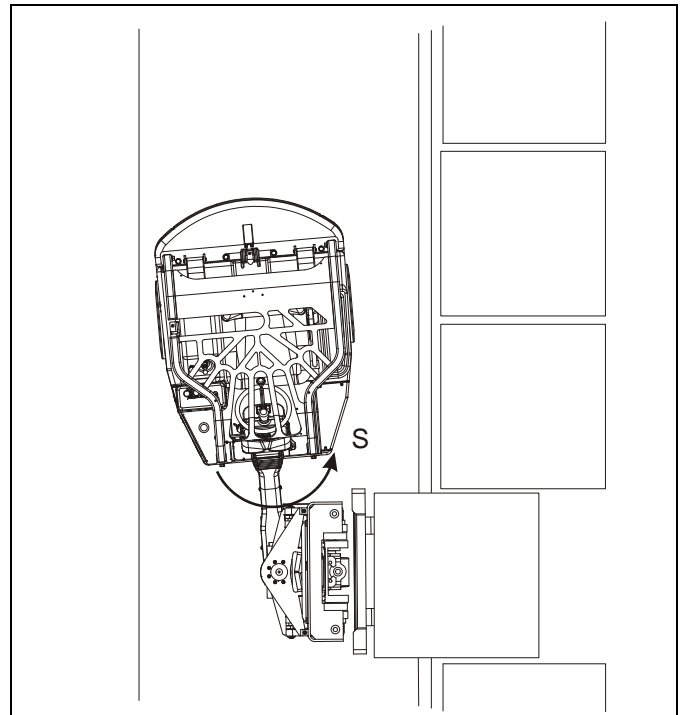

Figure 4-15: Retrieving the Pallet
8. Turn the steering wheel to keep the forks straight as you fully insert them into the load. Lift, tilt, and side shift as required to stabilize and pickup the load. See Figure 4-15. Only raise the load high enough to clear the rack or the load backrest may catch on the rack.